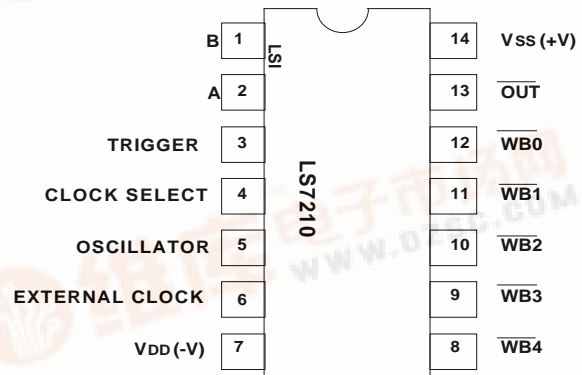

FIGURE 1
- LS7210 (DIP), LS7210-S (SOIC)-See Figure 1